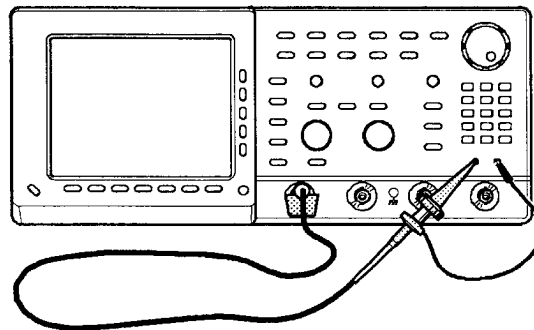

Figure 4-3: Universal Test Hookup for Functional Tests
- a. *Hook up the signal source:* Install the probe on **CH 1**. Connect the probe tip to **PROBE COMPENSATION SIGNAL** on the front panel; connect the probe ground to **PROBE COMPENSATION GND**. (See Figure 4-3 on page 4-6.)